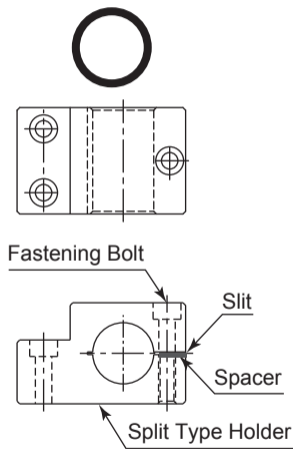
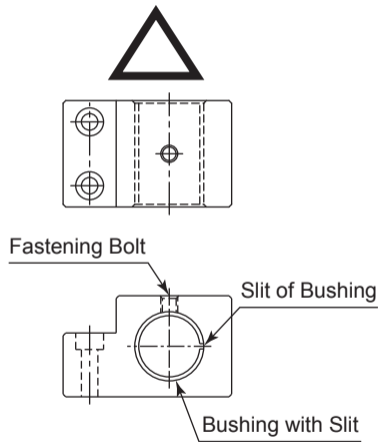

Fig. 36
Fig. 37
- ② When installing a motor spindle to the holder, recommended installation method is shown Fig 36. Refer to " ③ How to fabricate the Split Type Holder ". If this is not possible, install as shown in Fig. 37 using the Controllers X10mA function to avoid crushing the motor spindle.